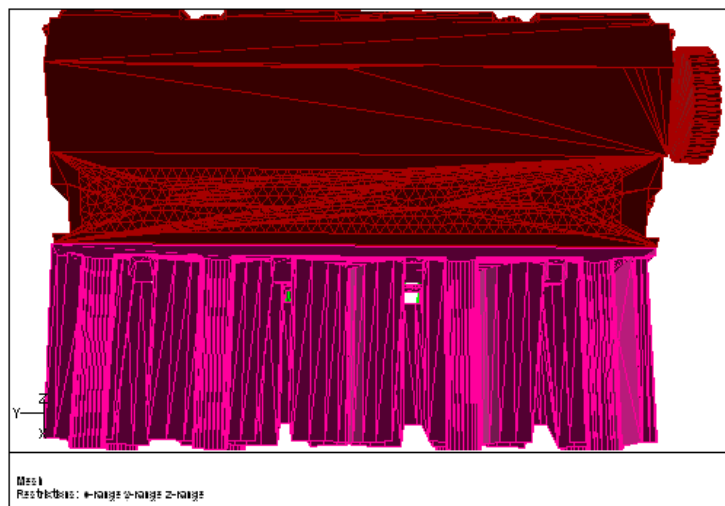

Figure 7.10: Holes Closed in the f\_v8-top-left Zone Using a Plane Surface
- (h) Click Display in the Display Grid panel to see the recently closed holes (Figure 7.10).